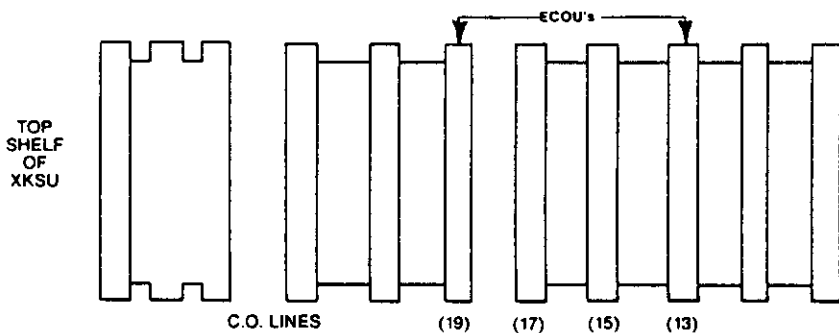

FIGURE 2B—LOCATION OF ECOU BACKPLANE CONNECTOR PINS—XKSU
2.2.2 Of the C.O. lines connected to an XKSU, up to two of the following C.O. lines (13), (15), (17), or (19) may be selected for connection to off-premise telephones. See **Figure 2B**.